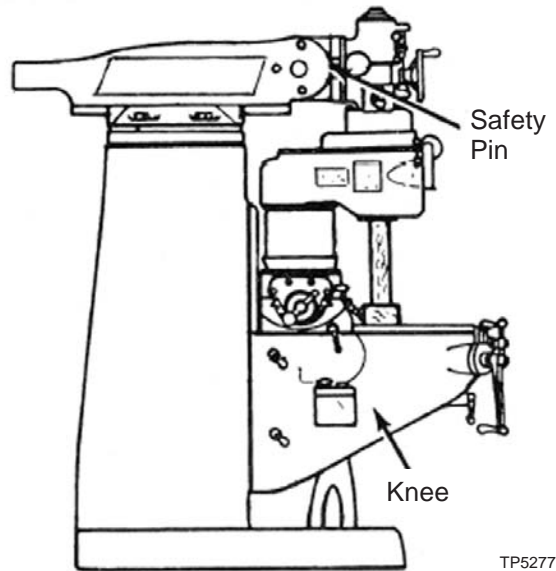

Figure 2.2 - Milling Machine
1. Lower the knee (see Figure 2.2) approximately 6 inches. (150 mm).